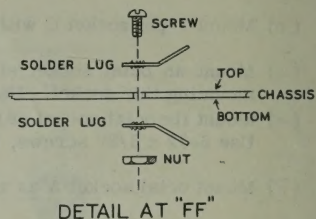

Figure 6
- (✓) Mount the solder lugs FF using a 6-32 x 3/8 screw and nut. Place a solder lug on the screw on top of the chassis before inserting the screw. See Figure 6.